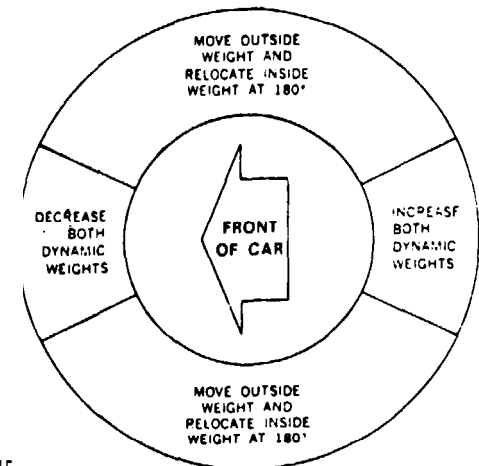

Fig. 15
- (D) Again spin the wheel. If the meter needle remains in the green, the wheel is balanced. If the needle goes above the green, spin the wheel until it peaks and then allow it to coast as before. Observe the location of the dynamic weight when the meter reading breaks. See Fig. 15.